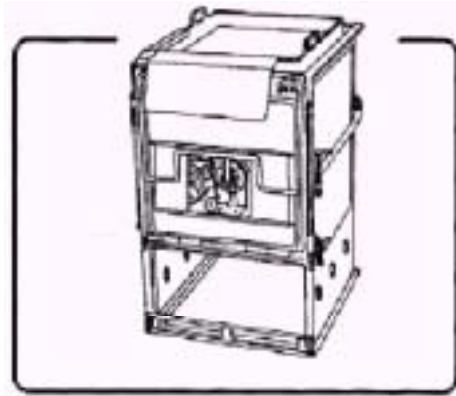
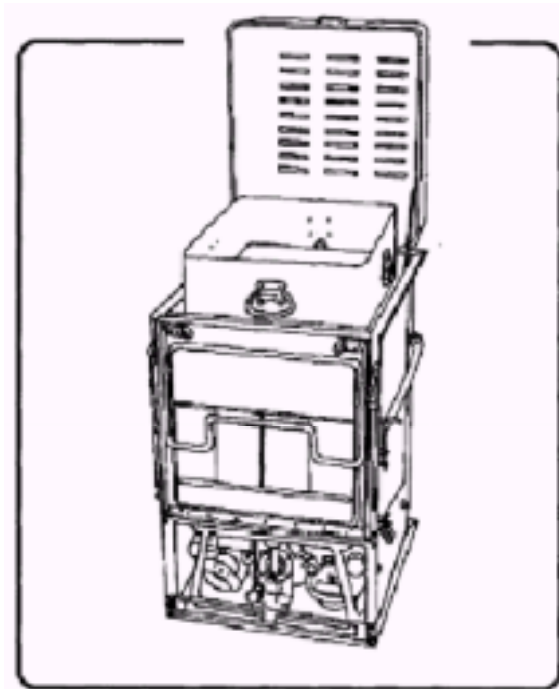

Figure 3-4. Field range with burner in top position.
Figure 3-5. Field range with burner in bottom position.
1. Using the Field Range. The M59 field range can be used to bake, roast, boil, grill, and deep-fat fry foods by putting the burner unit in the correct position. The range may also be used as a hot line or steam table. The burner unit can be used in either the top or bottom position. Figure 3-4 shows the field range with the burner unit in the top position. When the burner unit is used in the top position, open the slide shutters on the field range cabinet. Figure 3-5 shows the field range with the burner unit in the bottom position. Close the slide shutters on the field range cabinet when the unit is in the bottom position.